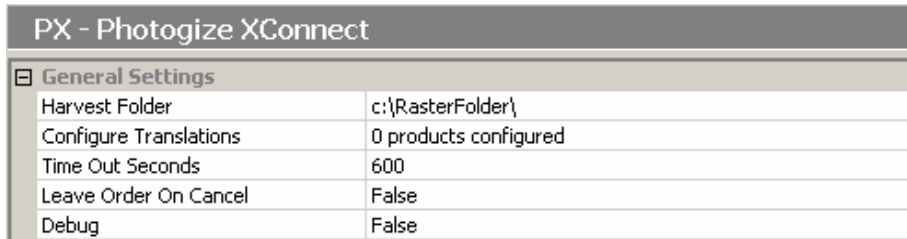

Figure 3: Photogize XConnect General Settings
- 9.) *Harvest Folder* should be set the same value as the *Polling Folder* path in the Photogize XConnect setup. (Default is **C:\RasterFolder\**, as seen in Figure3.) If the folder is located on a separate machine on which Photogize is installed, the computer name needs to be included (e.g. \\ComputerName\RasterFolder )